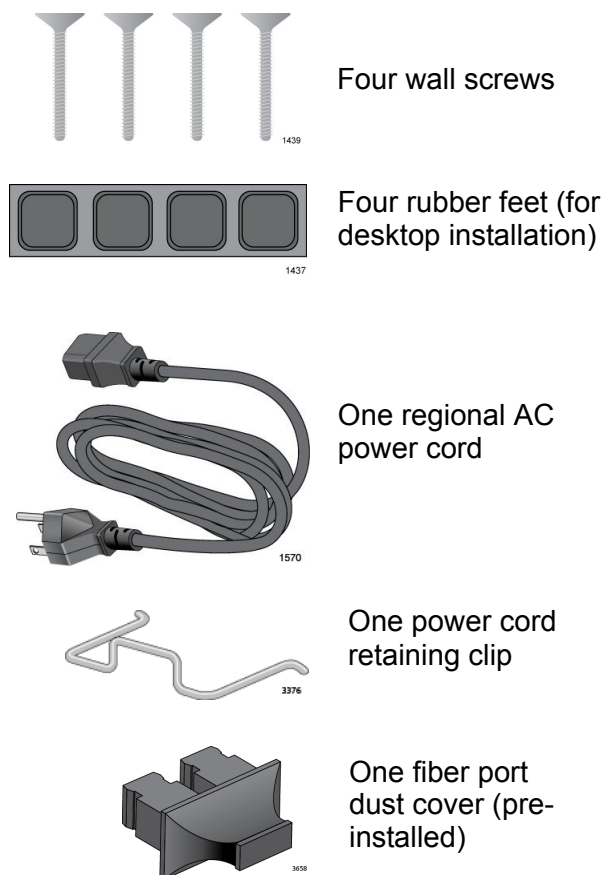

Figure 14. AT-PC2000/SC and AT-PC200/SC Shipping Package Contents
- Figure 14 on page 38 shows shipping container items for the AT-PC2000/SC and AT-PC200/SC.